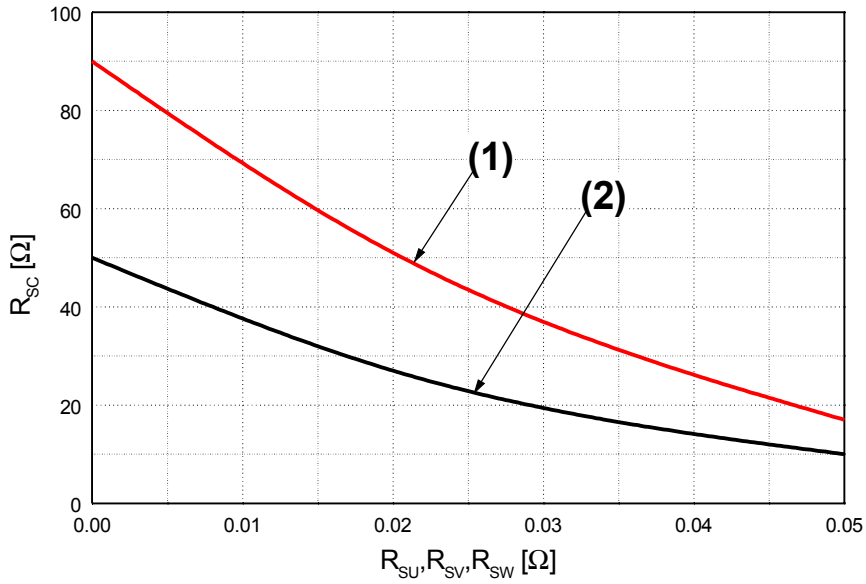

Fig. 7. R_{sc} Variation by change of Shunt Resistors (R_{SU}, R_{SV}, R_{SW}) for Short-Circuit Protection
- Short-circuit current protection is functioning only at the low-sides. It would be recommended that the value of the external sensing resistor (R_{SC}) should be selected around 50 Ω in order to make the SC trip-level of about 45A at the shunt resistors (R_{SU}, R_{SV}, R_{SW}) of 0Ω. For the detailed information about the relationship between the external sensing resistor (R_{SC}) and the shunt resistors (R_{SU}, R_{SV}, R_{SW}), please see Fig. 7.